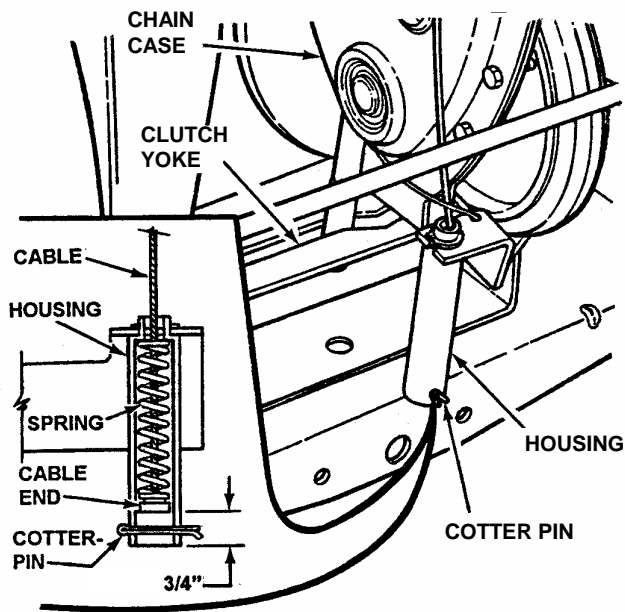

FIGURE 4.9
5. Measure the distance between end of clutch/brake cable and bottom of housing. Measurement should be $\frac{3}{4}$ ". See inset, Figure 4.9.
7. Adjust cable up or down using the jam-nuts to obtain a distance $\frac{3}{4}$ " between end of clutch/brake cable and bottom of housing. See Figure 4.9.